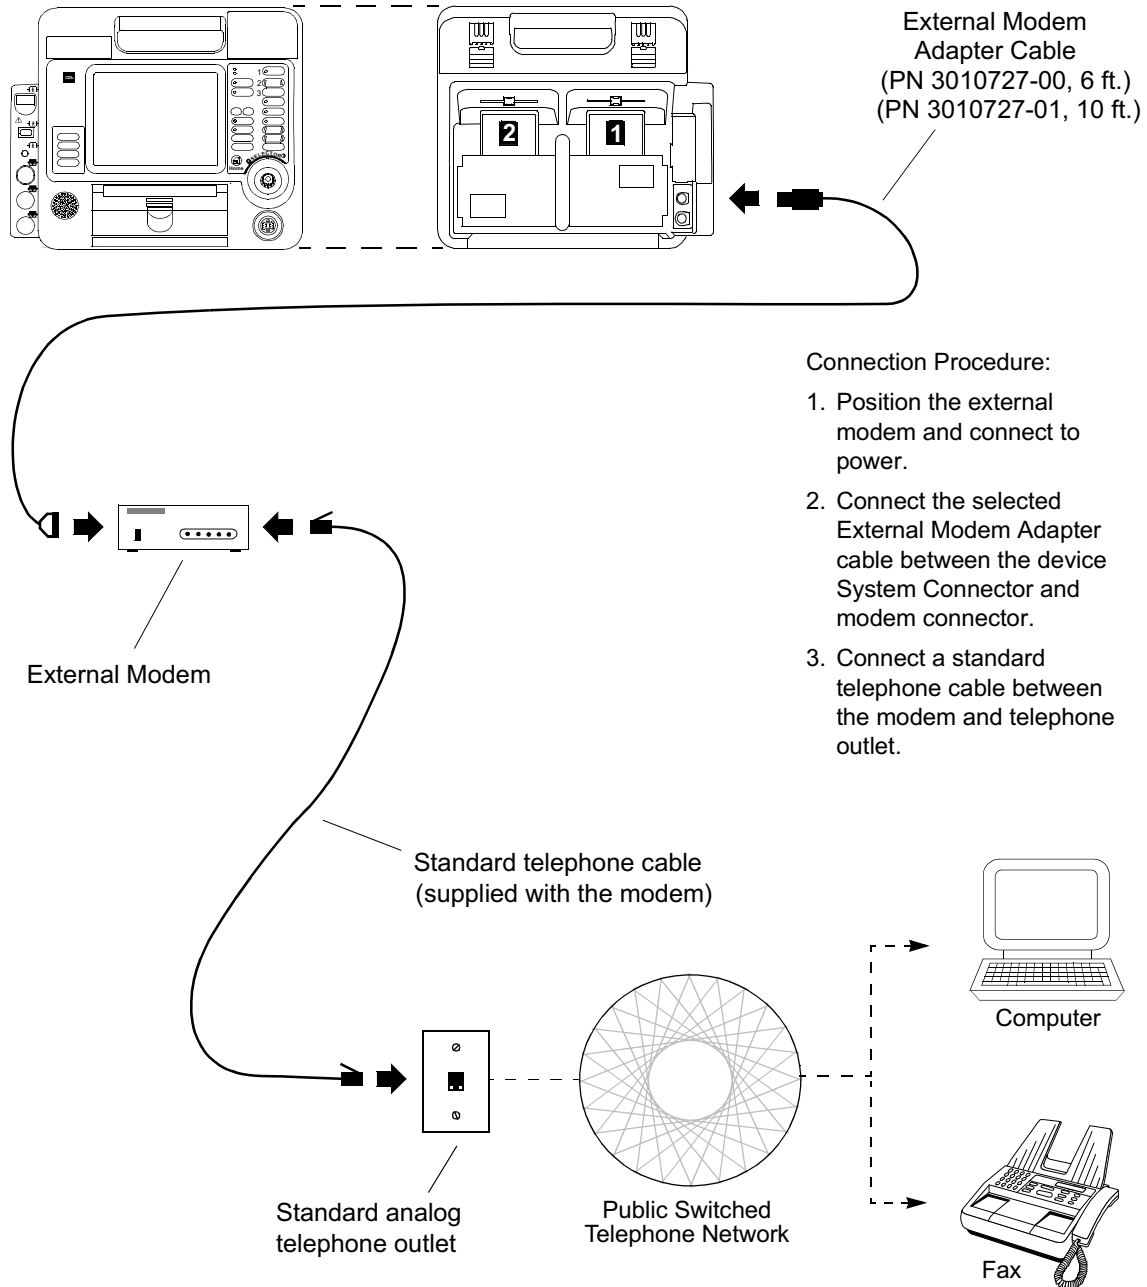

**Figure 6-5** Equipment Connections External Modem – Analog Landline
- **External** Transmit reports by analog landline telephone using an external modem. Requires the following for interconnection (see Figure 6-5):
Figure 6-5 shows you the equipment connections for transmitting reports by analog landline telephone using an external Card modem.